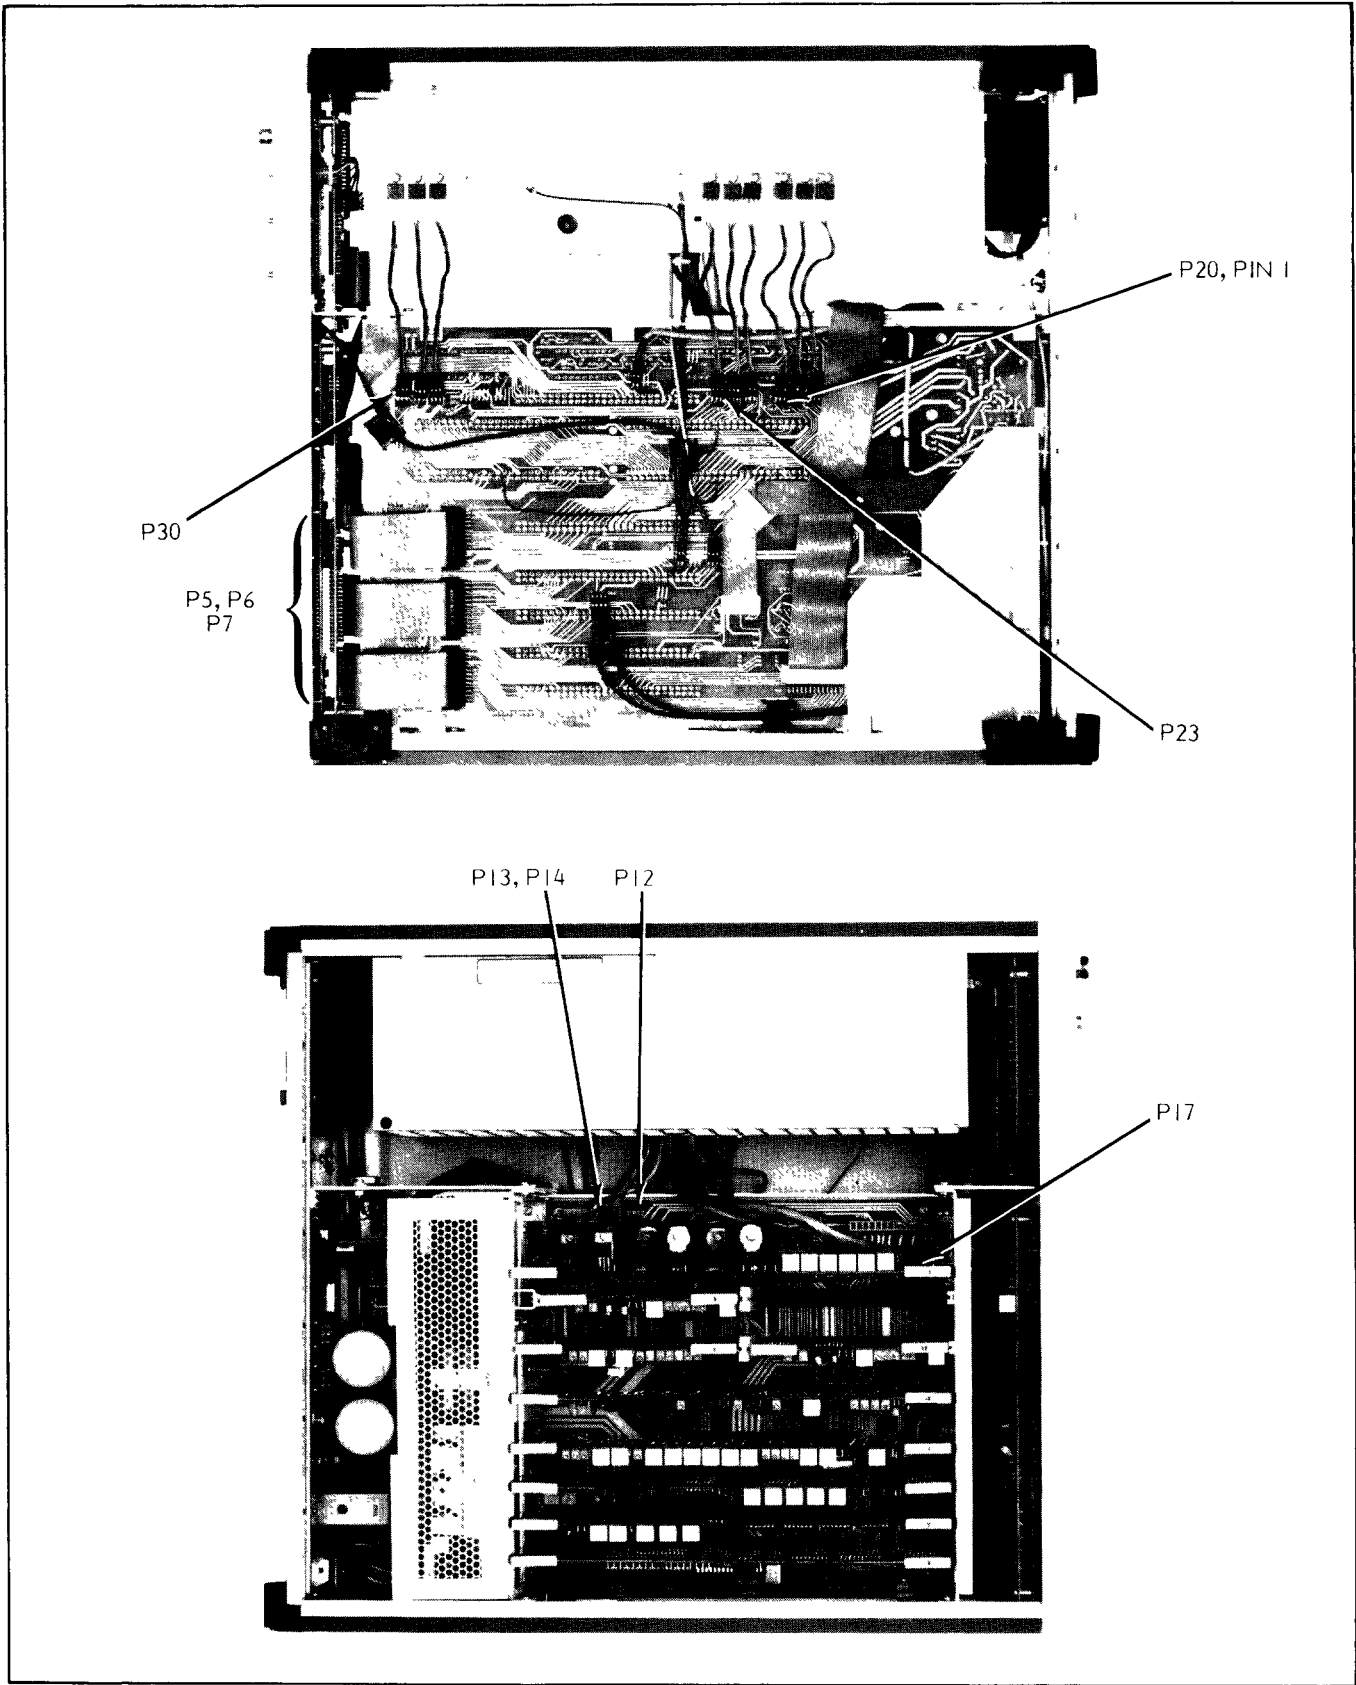

Figure 5-2. Connector Locations
2. Remove the A1 (Option 3) and A2 thru A10 PCBs (Figure 5-2).
3. Disconnect the following A14 connectors (Figure 5-2): P5, P6, P7, P12, P13, P14, P17, P20, P23, and P30.
1. Disconnect the DMM from P3 and connect it between A14P20, pin 1 (Figure 5-2), and chassis ground.